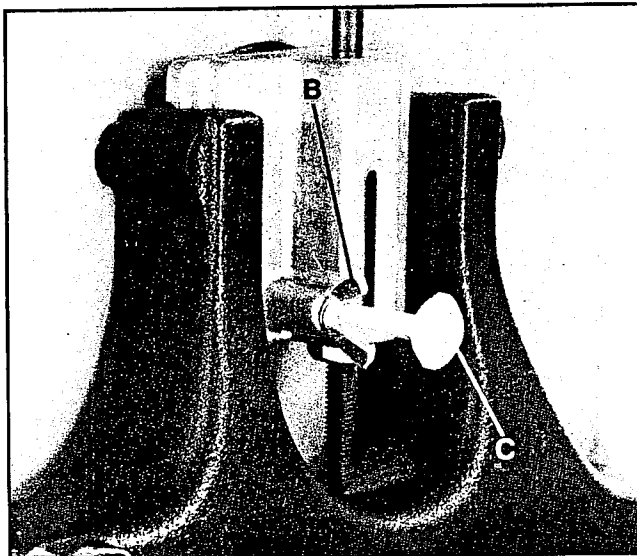
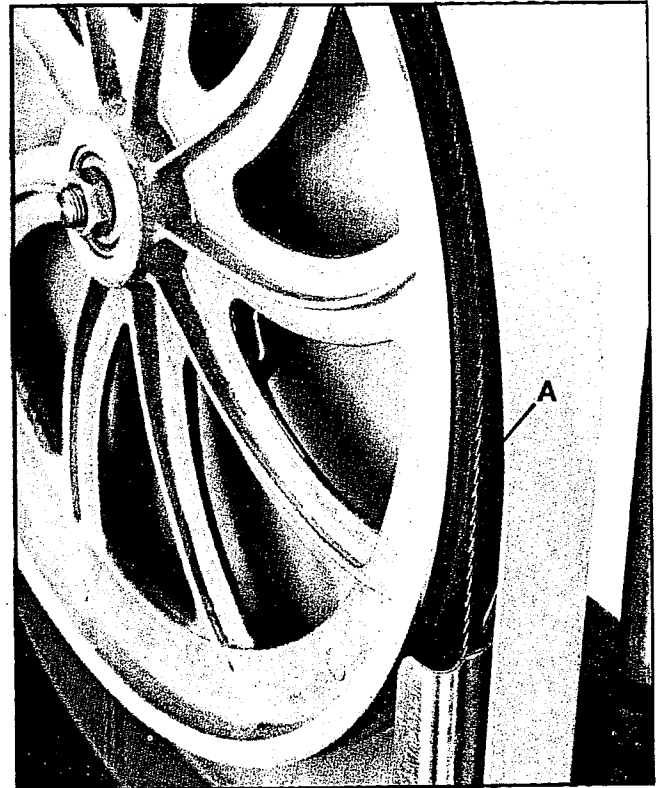

Fig. 25
Fig. 24
After tension has been applied to the blade, turn the wheels slowly forward by hand and watch the blade (A) Fig. 24, to see that it travels in the center of the upper tire. If the blade begins to creep toward the front edge, loosen the wing nut (B) Fig. 25, and tighten the thumb screw (C). This will tilt the top of the wheel toward the back of the machine and will draw the blade toward the center of the tire. If the blade creeps toward the back edge, turn the thumb screw in the opposite direction.
Adjust the thumb screw (C) Fig. 25, only a fraction of a turn at a time. **NEVER TRACK THE BLADE WHILE THE MACHINE IS RUNNING.** After the blade is tracking in the center of the tires, tighten the wing nut (B) Fig. 25.